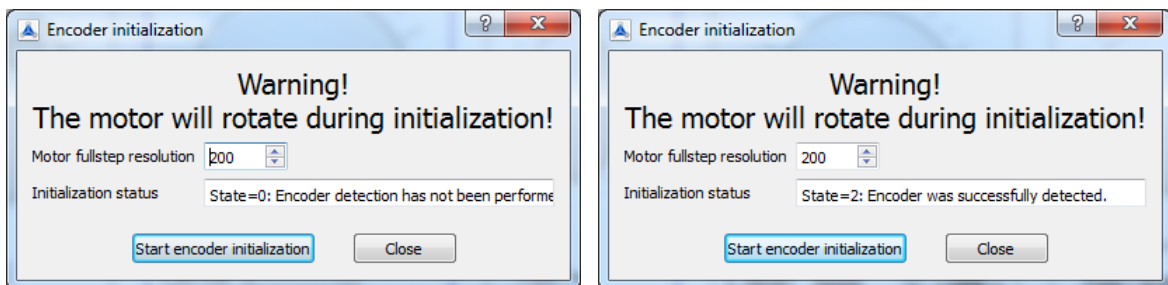

Figure 3.5 Encoder initialization window before initialization and afterwards
- For closed loop mode, initialize the encoder with the appropriate command fields (see **Figure 3.5**) first. To open up the *encoder initialization* window, click on the **Init encoder** button on the *quickstart* tab.